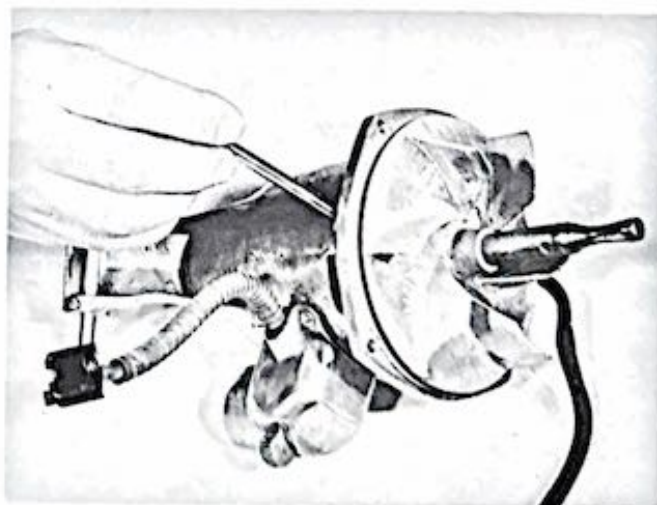

Figure 1-14. Holding armature for fan removal
b. Insert a fan locking pin (T104) or an ice pick through the ventilating hole on the bottom of the motor housing and through the hole of the armature shaft as shown in figure 1-14 to hold the armature from turning.
l. Insert a fan locking pin or an ice pick through the ventilating hole of the housing and the hole in the armature shaft to hold the armature from turning as shown in figure 1-14; install the fan and pulley (55, fig. 1-1) by turning in a counterclockwise direction until snug.
o. Position the assembled safety switch, fan housing, and front wheel bracket on the motor housing; secure with the four screws (48). Check that the fan rotates in the housing without any interference.